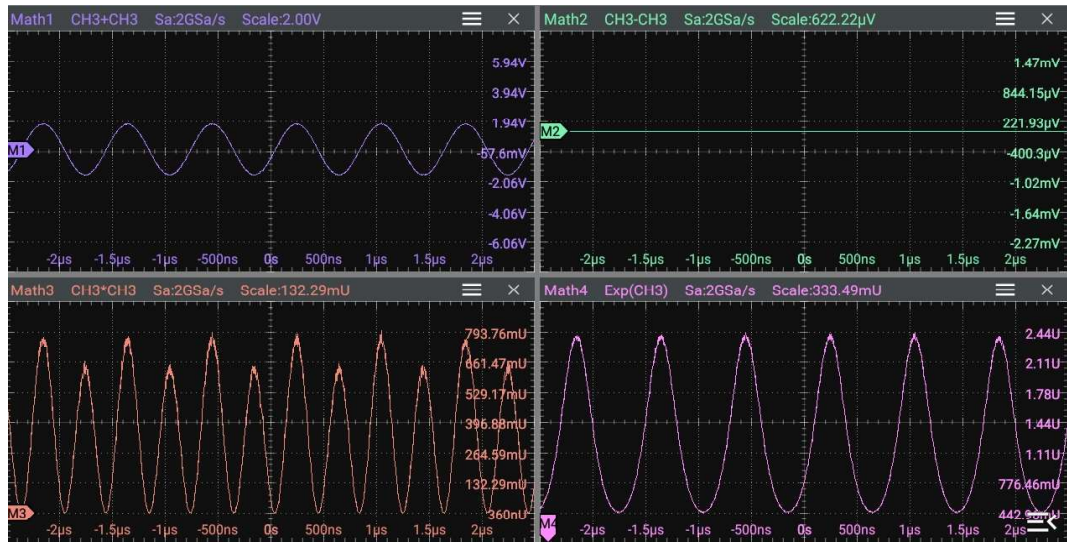

Figure 9.2 Waveform Display Window of the Operation Results
- Click or tap the Math1~Math4 label at the bottom of the screen, and the corresponding math window appears on the screen, as shown in *Figure 9.2*.
In the **Math** menu, click or tap the **Operation** on/off switch to show or hide the waveform display window of the operation results. By default, it is OFF. When "ON" is selected for Math1 ~ Math4, the figure as shown in *Figure 9.2* is displayed on the screen.